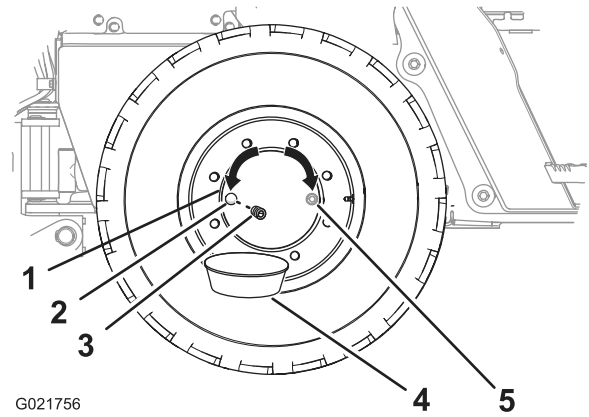

Figure 65
2. Move the machine forward or backward until the plug for the wheel hub is at either the 3 o'clock or 9 o'clock position (Figure 65).
4. Place a drain pan under the drain port in the wheel hub (Figure 65).
5. Remove the plug from the wheel hub (Figure 65).
6. Check that the oil level is at the bottom of the threads of the oil port (Figure 65).
8. Install the plug in the oil port of the wheel hub (Figure 65).